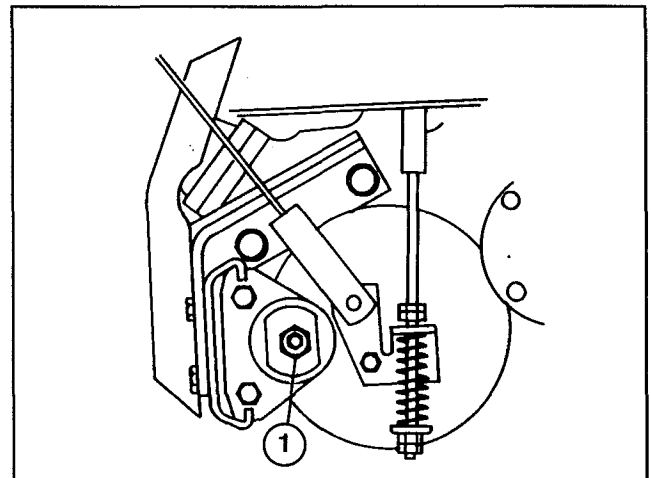

Figure 46
2. Tighten the caliper brake inboard adjustment nut (Fig. 46) until the brake disc cannot be rotated by hand.